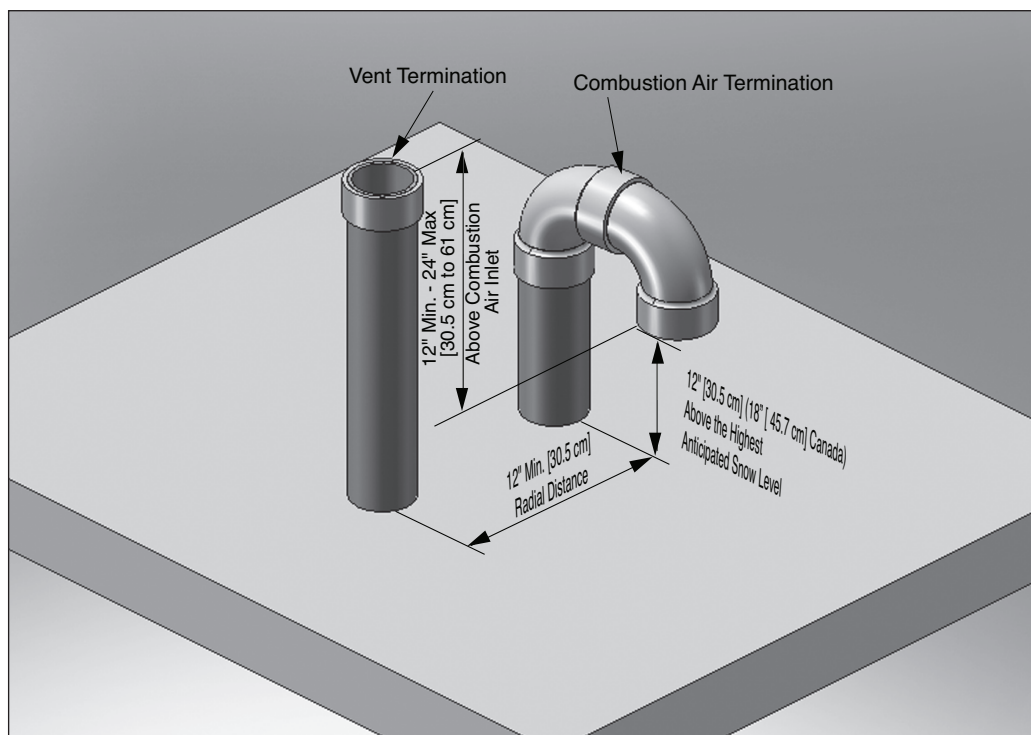

Fig. 1 - Direct Vent - Vertical Termination of Vent and Combustion Air Piping.
2. The combustion air piping must terminate in an upside down "U" shape fashion using two 90° elbows, as shown in *Fig. 1 on page 14*. The termination must be located 12" [30.5 cm] (18" [45.7 cm] Canada) above the highest anticipated snow level.
3. The vent piping must terminate vertically with a coupling to accept the bird screen and must be located 12" to 24" [30.5 cm to 61 cm] above the combustion air inlet as shown in *Fig. 1 on page 14*.
4. The vent and combustion air terminations must be located at a radial distance of 12" to 24" [30.5 cm to 61 cm] from centerline of vent termination to centerline of air termination as shown in *Fig. 1 on page 14*.
3. Locate the vent and combustion air pipe penetrations to provide clearances as described in **Fig. 1 on page 14**.
2. The combustion air piping must terminate in an up-side down "U" shape fashion using two 90° elbows as shown in *Fig. 1 on page 14*.
3. The vent piping must terminate vertically with a coupling as shown in *Fig. 1 on page 14*.
**Do not extend the vent pipe above the roof beyond the dimensions shown in *Fig. 1 on page 14*. Extended exposure of the vent pipe could cause condensate to freeze and block the vent pipe, resulting in substantial property damage, serious injury, or death**